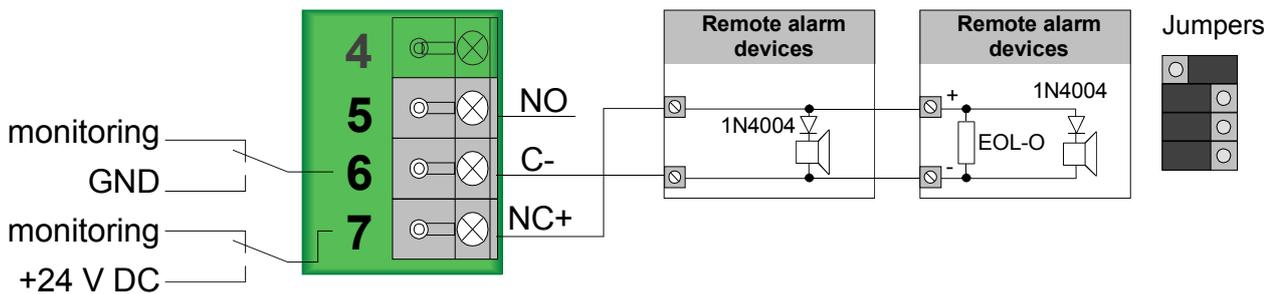

Fig. 58: Connection diagram, e.g. relay 2 and jumper positions
- Insert one EOL-O as per EN 54-13 into the last peripheral equipment. Take note of the polarity (+/-) of the terminal elements (see Fig. 58).